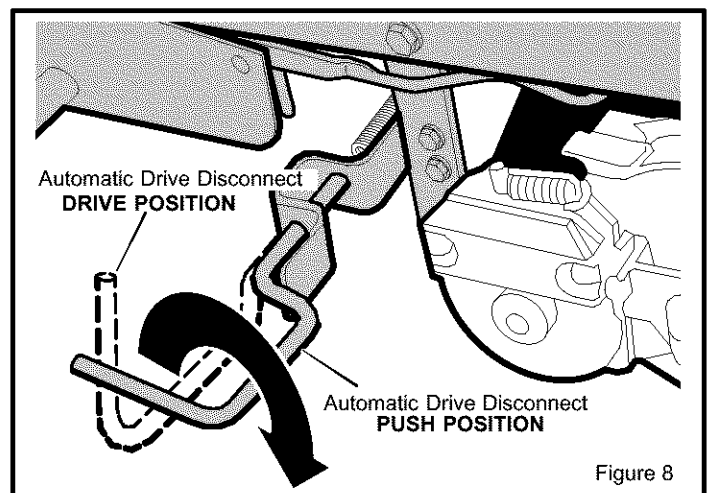

Figure 8
To push the unit, use the **automatic drive disconnect** to release the transmission. (Figure 8)
3. Move and latch the **automatic drive disconnect** in the **PUSH position** (Figure 8). The transmission is now *released* and the unit can be pushed.
1. The **automatic drive disconnect** must be in the DRIVE position (Figure 8).